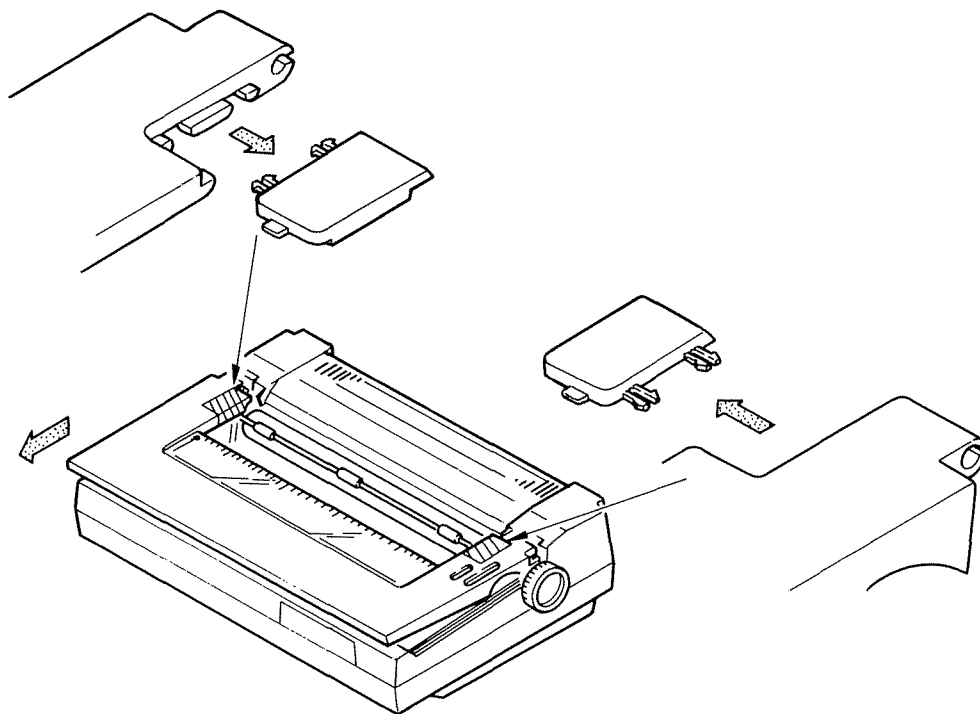

Figure 1
2. Remove the plate shelters from the Front Cover. (See figure 1).